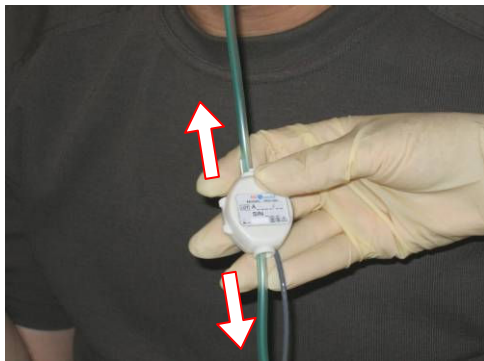

Figure 4: Actuator optimal position
4. Slide the actuator on the tube in proximal direction to the optimal position (determined by the physician according to patient's comfort level) (see Figure 4).